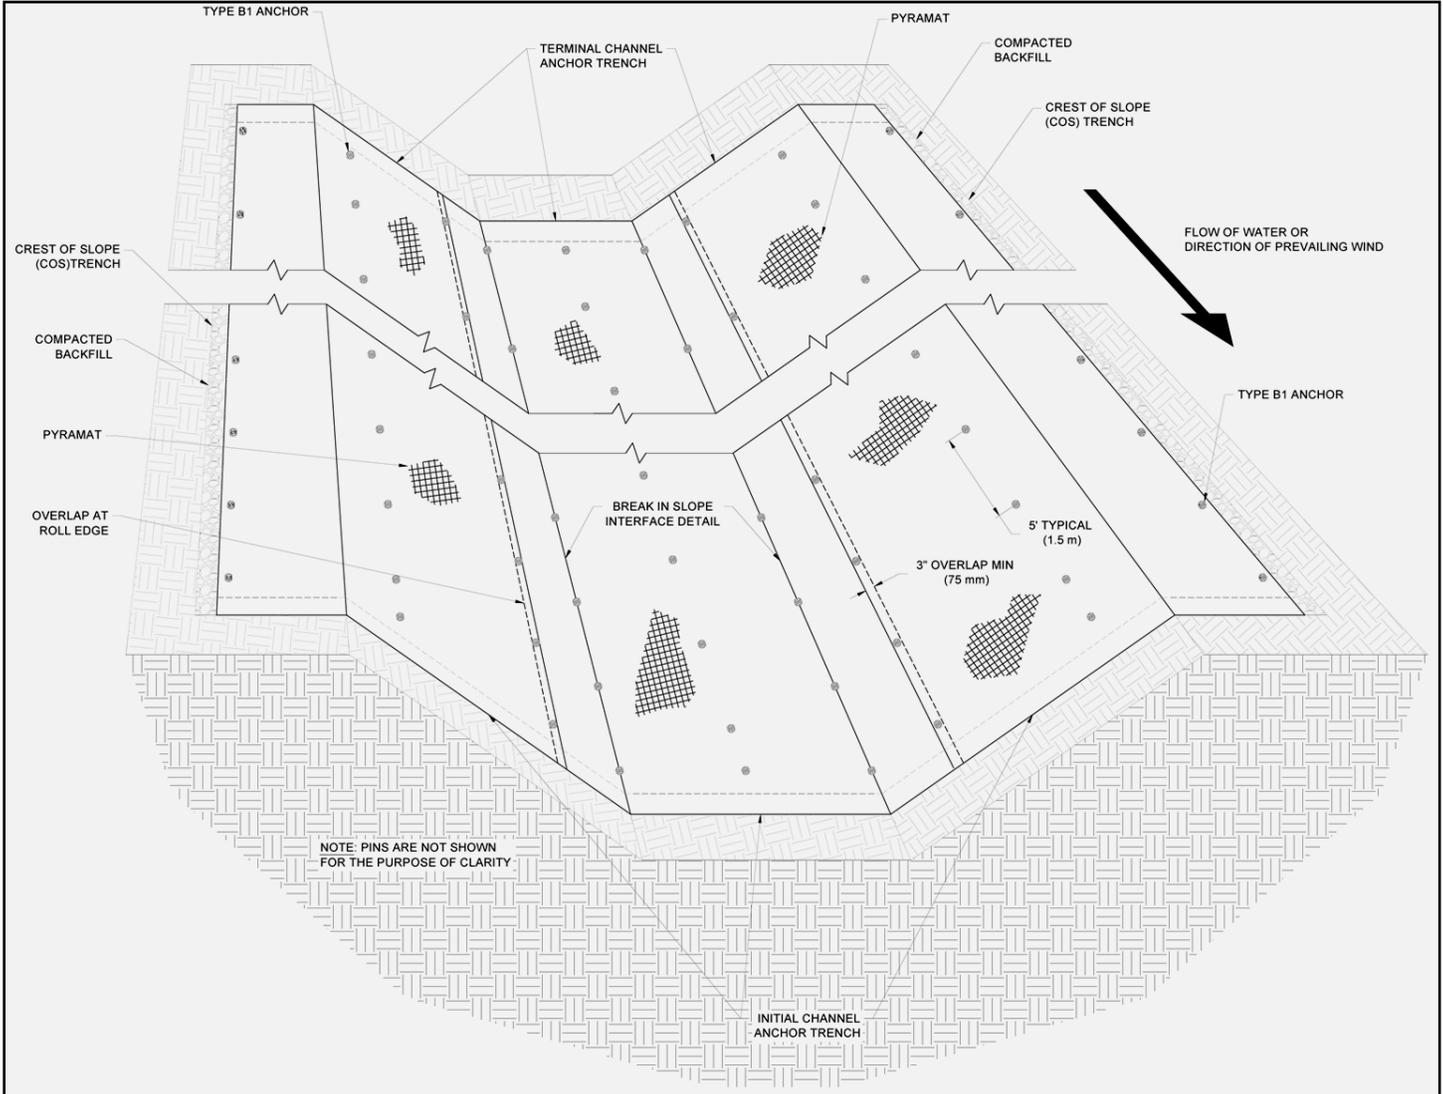

Figure 27: Completed Channel Isometric View
18. At a minimum, Pyramat panels should be pinned entirely across the channel surface, pins and anchors should be installed in the trenches, and the trenches should be backfilled and compacted at the end of each day to minimize rework in the case of a major rain event. Specific project conditions may warrant further evaluation of installation order for ease. An example isometric view (Figure 27) of a channel armored with ARMORMAX® can be seen below for overall reference. Consult Propex Engineering Services at (423) 553-2450 with any questions that you may have.